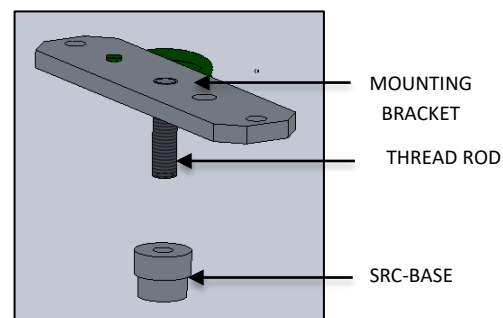

FIG. 24 - THREAD ROD INSTALLATION
2. Screw the THREAD ROD into the top of the SRC-BASE until fully seated. Then assemble the THREADED ROD/ SRC-BASE into the center hole of the MOUNTING BRACKET until SRC-BASE is fully seated against MOUNTING BRACKET as shown below in FIG. 24.